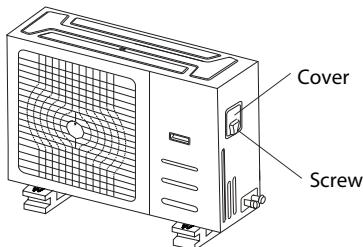

Fig. 8.1
2. Remove the electric cover of the outdoor unit. If there is no cover on the outdoor unit, take off the bolts from the maintenance board and remove the protection board. (See Fig. 8.1)